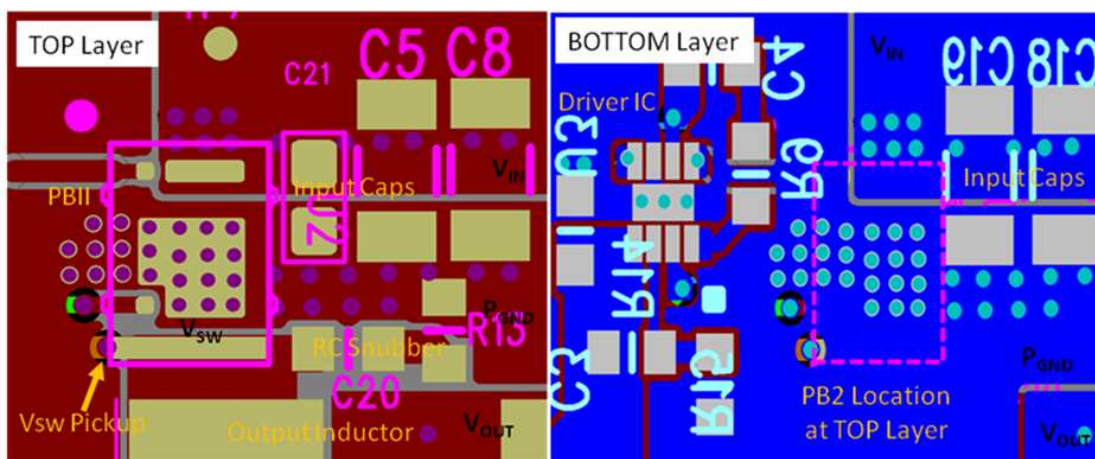

Figure 29. Recommended PCB Layout (Top Down View)
- The placement of the input capacitors relative to VIN and PGND pins of CSD87384M device should have the highest priority during the component placement routine. It is critical to minimize these node lengths. As such, ceramic input capacitors need to be placed as close as possible to the VIN and PGND pins (see Figure 29). The example in Figure 29 uses 1 × 10 nF 0402 25 V and 4 × 10 μ F 1206 25 V ceramic capacitors (TDK part number C3216X5R1C106KT or equivalent). Notice there are ceramic capacitors on both sides of the board with an appropriate amount of vias interconnecting both layers. In terms of priority of placement next to the Power Stage C21, C5, C8, C19, and C18 should follow in order.
- The switching node of the output inductor should be placed relatively close to the Power Block II CSD87384M VSW pins. Minimizing the VSW node length between these two components will reduce the PCB conduction losses and actually reduce the switching noise level. See Figure 29. ⁽¹⁾
- Use the smallest drill size allowed in your design. The example in Figure 29 uses vias with a 10 mil drill hole and a 16 mil capture pad.